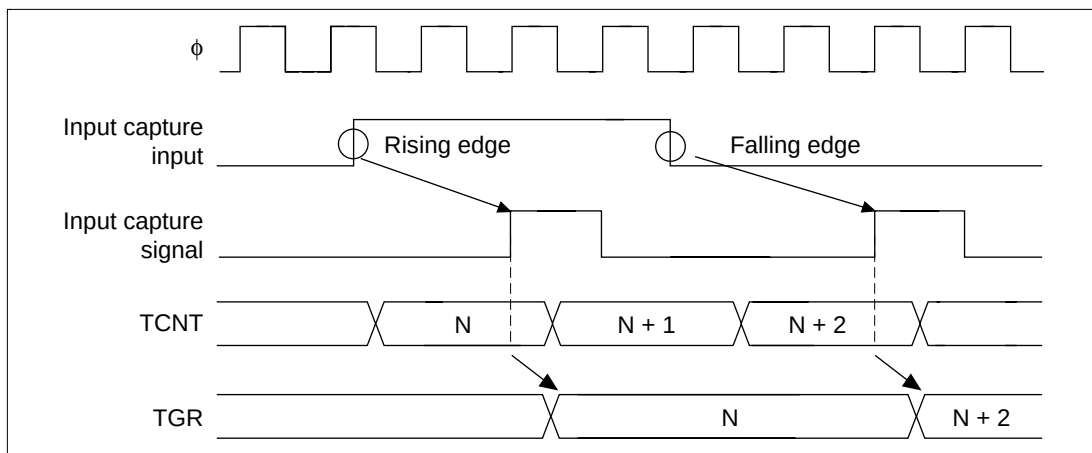

**Figure 12.64 Input Capture Input Signal Timing**
**Input Capture Signal Timing:** Figure 12.64 illustrates input capture timing.